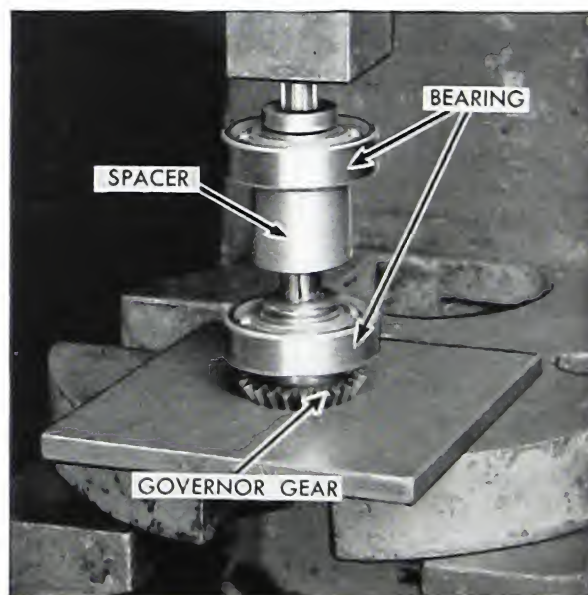

Fig. 5-125. Hydraulic governor drive unit assembly
6. Place the pinion gear in a plate with a beveled hole or protect the threaded shaft with a socket and, using a hard wood block on the splined end of the shaft, press the assembly together. Fig. 5-125.